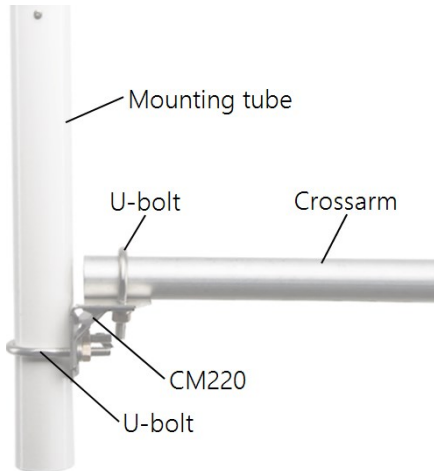

Figure 6-2. ClimaVue50, MetSENS, or WindSonic Mounting Pipe Kit and crossarm
1. If using a crossarm, attach the mounting tube to the crossarm by using the CM220 Right Angle Mounting Kit, then mount the crossarm to the tripod or tower (Figure 6-2 [p. 11]).